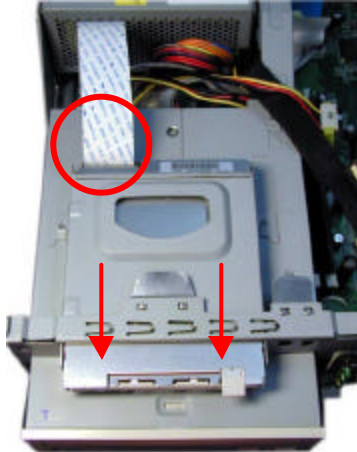

Figure 3.7.2
- iii. Slide and slot the rack from the inside of the Sabre unit towards the outside (front) so its clicks into position, as shown in [Figure 3.7.2].
- iv. Connect the FDD (data transfer) cable, as shown in [Figure 3.7.2].